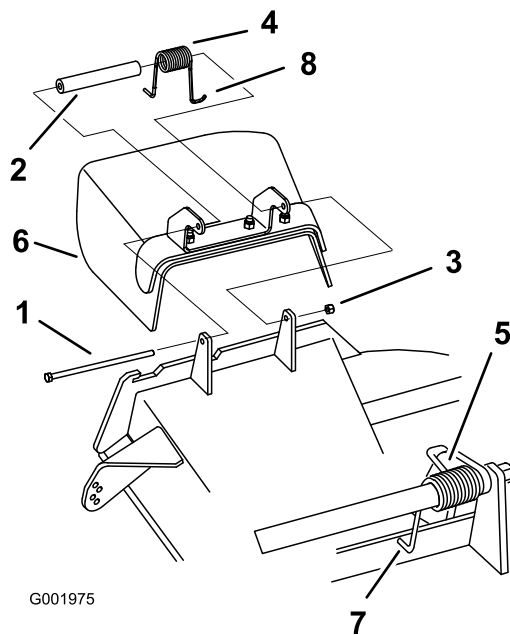

Figure 75
1. Remove the locknut, bolt, spring and spacer holding the deflector to the pivot brackets (Figure 75). Remove damaged or worn grass deflector.
Note: Make sure the **L** end of spring is installed behind deck edge before installing the bolt as shown in Figure 75.
3. Install bolt and nut. Place the **J** hook end of spring around grass deflector (Figure 75).